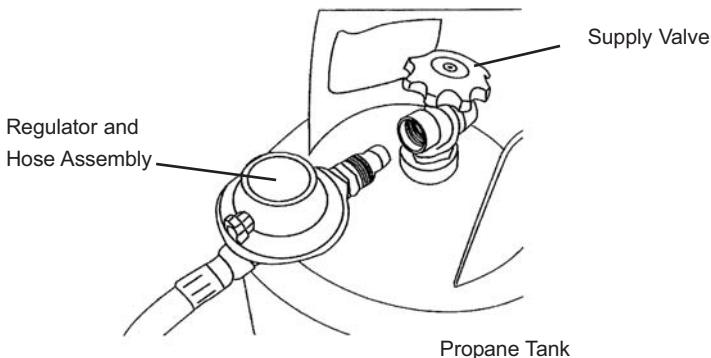

Figure 5: Attaching Regulator Hose to Inlet Connector
- To connect hose and regulator assembly, rotate fitting on hose/regulator COUNTERCLOCKWISE into threads on tank valve (see Figure 5). Be sure to tighten firmly. Important: Be sure to position the regulator so that the regulator is horizontal, also as shown in Figure 5.